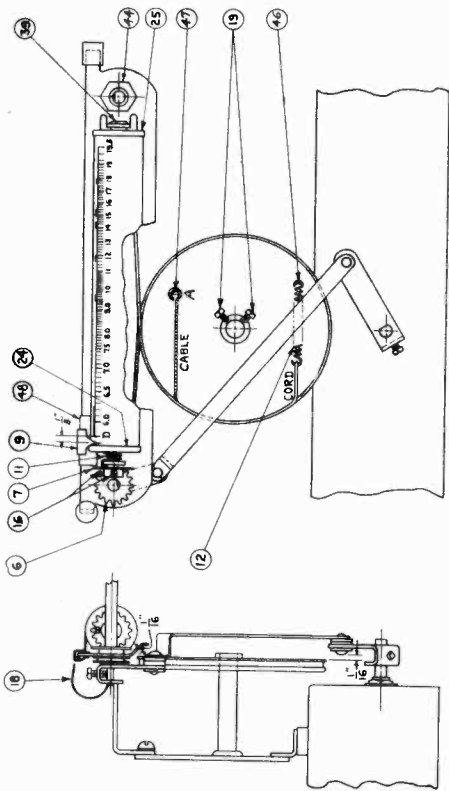

Fig. 6. Dial Mechanism
replace either the drive cable or the drive cord, remove the dial scale for convenient access to guide (48). Unhook spring (12) from tab (46) to release tension. Unhook the cable or cord from guide (48) and unwind thread to agree with Fig. 6, and rehook drum spring (12) as shown.
Loosen the two set screws holding the toggle mechanism on the band change switch and on shaft (6). Replace with new assembly, setting lower lever arm 1 1/2 in. away from the condenser drive drum as shown in Fig. 6, and tighten set screw on frequency band switch shaft. Rotate shaft (6) clockwise until there is slight tension on spring (11) with the scale in the Band "D" position. Place upper lever arm in shaft and tighten set screw.
The scale pointer is soldered to the slider. To set the pointer mechanically, turn the tuning condenser rotor so that the plates are fully engaged, and solder the pointer to indicate 1/4 in. to the left of the extreme left-hand line on the Band "D" scale as shown in Fig. 6.
With set screws (19) loosened and tuning condenser plates fully engaged, place the drum in the position as shown in Fig. 6 so that drum spring (12) is approximately horizontal, and the top rim of the drum is 1/8 in. away from the mounting plate. Guide (48) should stop at equal distances from each end of the mounting plate slot.